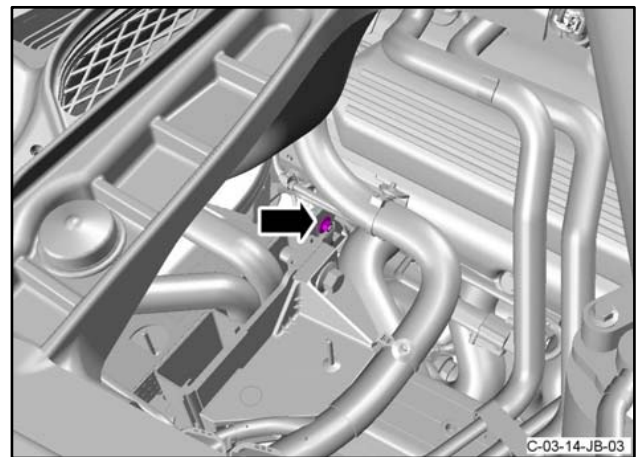

Figure 43
85. Install the nut that attaches the heat shield for the front floor, to the body (refer to Figure 43). Torque the nut to 9 Nm.